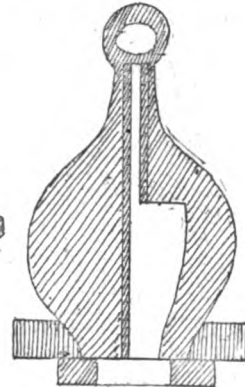
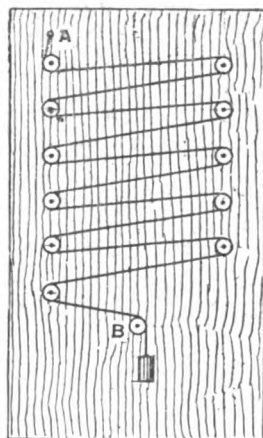

FIG. 3
FIG. 1
more, may be used. The upper fittings (see Fig. 1) consist of a central standard with an opening  $\frac{1}{2}$  in. wide; this is the guide for the knife. At the foot of the standard, which is fixed to the lower stand with bolts and nuts, is the gauge. This is screwed to the side with a hexagon screw and nut, and regulates the thickness of the slice of bread to be cut. This standard may be of wood as shown in Fig. 3, and tenoned into the bottom stand, but it will be better if made of iron. A cast-iron slide at the end of the stand (see Fig. 1) has sliding up and down it a pin to which the end of the steel knife is fastened. The handle end of the knife is secured to a lever piece of iron working on pins and sockets, and fixed to the bottom stand with a hexagon nut and bolt. At the top of the lever a handle is fixed at an angle as shown in Fig. 1; this gives the motion to the knife of cutting down and across. The wood block at the end of the stand is for the lever of the knife handle to fall on. The knife should be of best steel and truly ground.
**Weather Indicators.**—The weather indicator here described depends for its action on the contraction or expansion of a cord with an increase or decrease respectively in the moisture contained in the atmosphere. First procure a board 18 in. or 20 in. long and 12 in. wide, a dozen very small empty silk-reels, and smooth French nails, and three or four knots of the finest uncoloured whipcord. Fix the reels by nails as shown in Fig. 1, and then to A secure one end of the cord and pass it over the reels from side to side as shown over the last one B. To this end of the cord fix a flat 4-oz. lead weight to keep the cord in tension. It will accordingly rise and fall with the humidity or dryness of the weather, thus